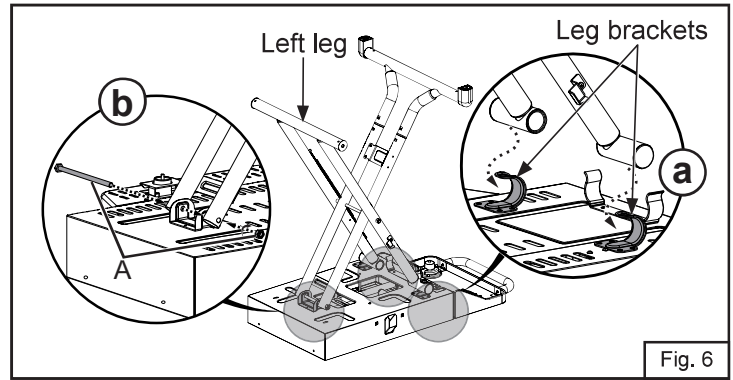

Fig. 6
6. Extend the legs and put the ends of the left leg into leg brackets (Step a in Fig. 6). Attach the right leg to the appliance base with bolt A (Step b in Fig. 6).